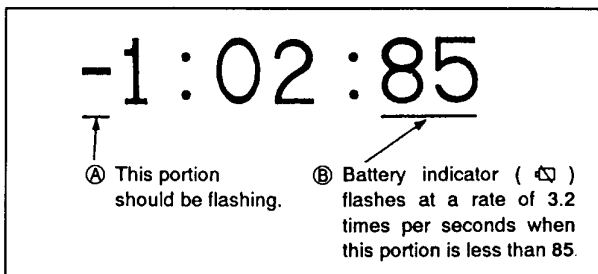

Fig. 9-5.
- 1) Press the data screen button (S509) on the VK-11P board to display the counter on the monitor screen. (See Fig. 9-5.)